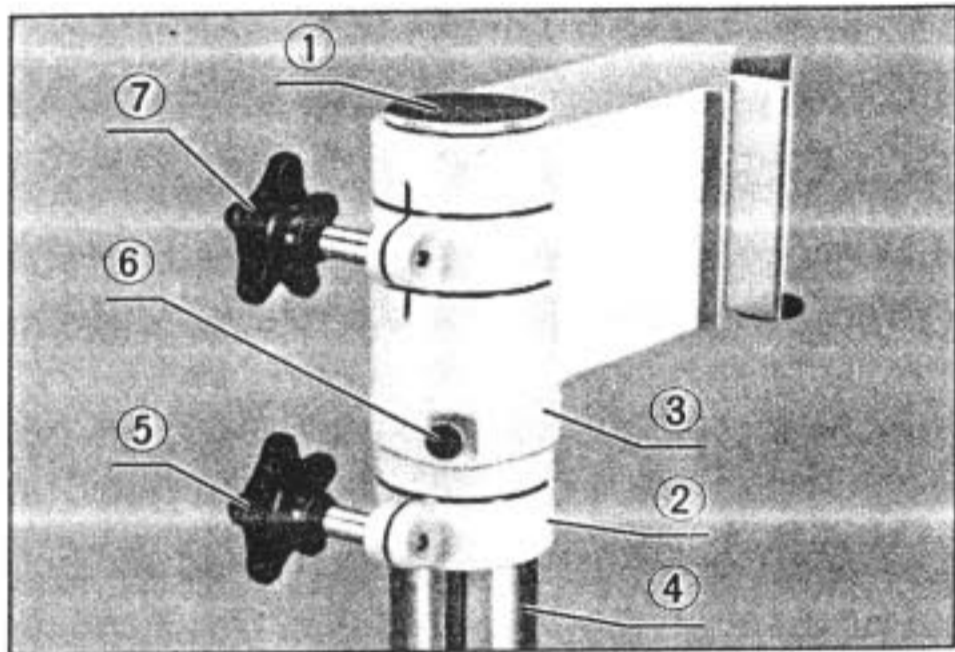

Fig. 2
Unscrew the cap ① from the top of the pillar and slide the collar ② onto the pillar. Clamp the collar on the pillar at a proper height so that the arm can be attached on the pillar in the following step. (Fig. 2)
Attach the arm ③ on the pillar ④, sliding it down until it comes next to the collar ②. Rescrew the cap ① at the pillar top. Loosening the collar clamping knob ⑤ (take care never to drop the collar), lift the collar and arm together until the upper surface of the arm comes next to the cap. Clamp the collar again. Screw the keyway lock ⑥ into the groove and tighten the arm clamping knob ⑦. (Fig. 2)